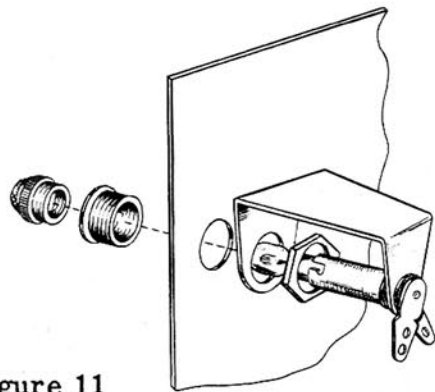

Figure 11
- () 189. Mount the pilot light socket at location CA as shown. Place the large bushing through the panel from the front. Slip the socket assembly over the bushing and secure it with a large nut. See Figure 11.